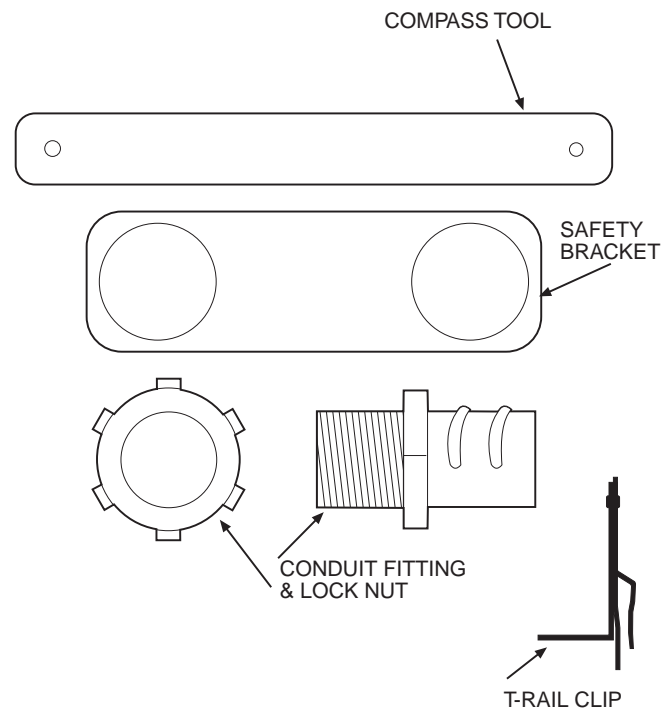

Figure 2. Back Box Parts
- 1 Parts bag (refer to Figure 2)